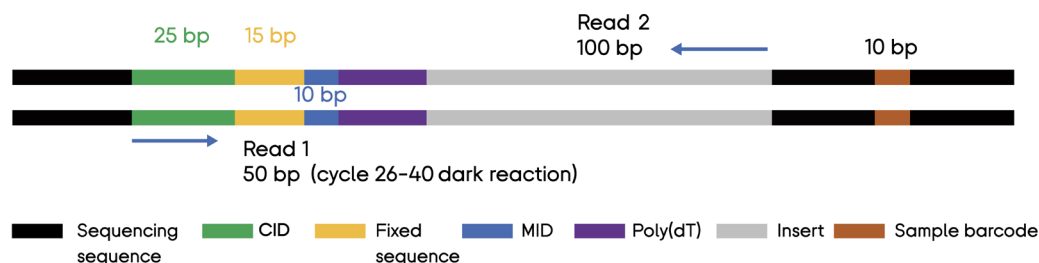
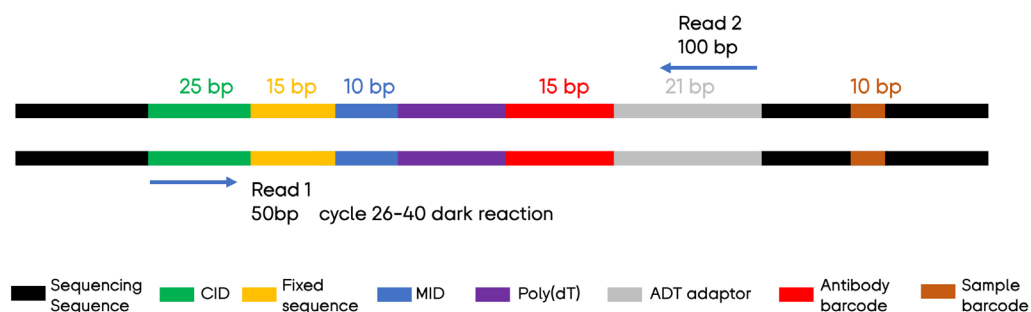

Figure 8. Stereo-CITE Transcriptome Library Structure
Figure 9. Stereo-CITE ADT Library Structure (when pooled with cDNA library together on T7)
- The cDNA and ADT library structure when pooled on the same T7 flowcell are illustrated in Figure 8 and Figure 9.